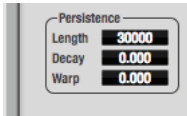

Figure 10-47: The Persistence controls.
The *Persistence* controls (Figure 10-47) affect the appearance of data from when it is first displayed until it disappears from the grid.
*Length* (Figure 10-47) sets the number of recent samples to show on the plot. For example, when Length is set to 10,000, the 10,000 most recent samples are shown.
*Decay* (Figure 10-47 on page 111) determines the brightness or hue of the minimum value. When Decay is zero, the oldest sample is black. When Decay is +1.000, the oldest sample is fully opaque (in Grayscale mode) or red (in Color mode).
*Warp* (Figure 10-47) determines the position of data points after they are first drawn. When warp is zero, data points remain in the same position.